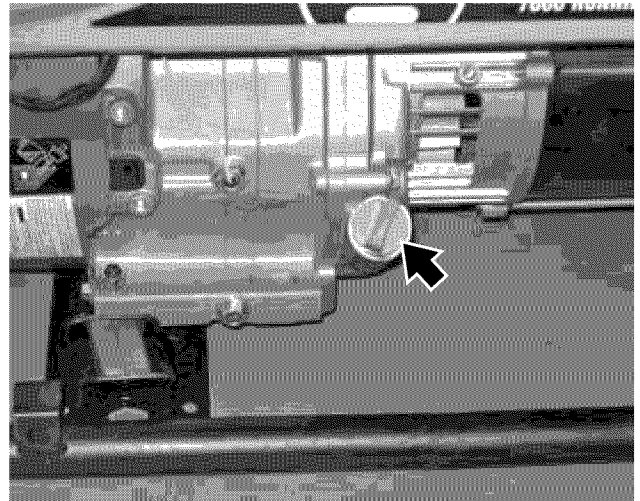

Figure 31 – Oil Fill Plug/Dipstick
5. Remove oil fill plug/dipstick (*see Figure 31*).